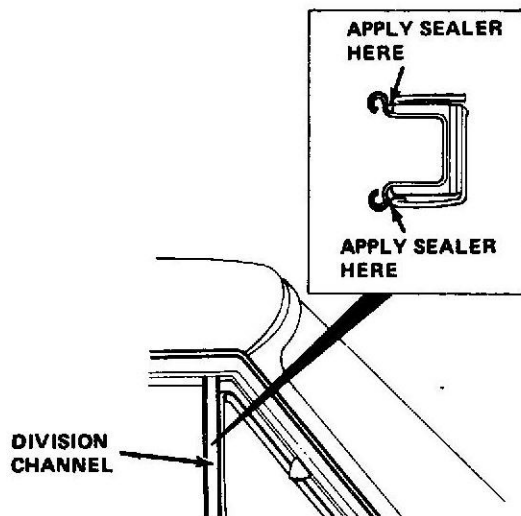

Fig. 1
(1) Insert small flat blade screwdriver in gap between rolled section and flat section of front door division channel. Insert blade at top and bottom (Fig. 1), and open gap slightly to allow application of sealer.
(2) Apply black silicone sealer, Gasket-In-A-Tube, or equivalent, along gap in division channel.
(3) Remove screwdriver.
(4) Wipe off excess sealer.
**NOTE:** Steps (1) through (4) are to be performed on both the inside and outside surfaces of the division channel.
(5) Repeat sealant application on opposite front door division channel.